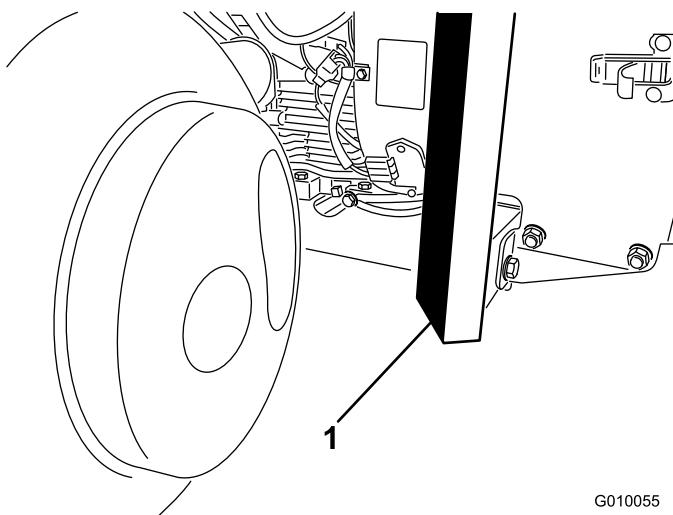

Figure 40
2. Position the jack securely under the front of the frame (Figure 40).